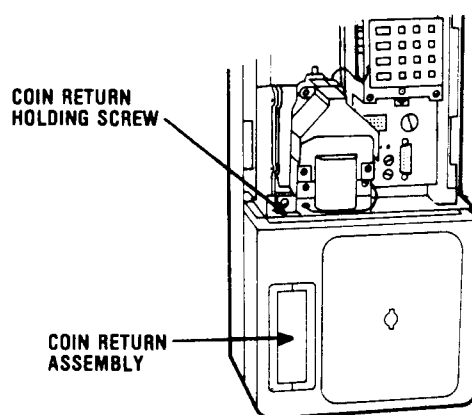

Figure 28 Coin Return
4. Remove the coin return holding screw. Refer to Figure 28.
2. Replace and tighten the coin return holding screw. Refer to Figure 28.